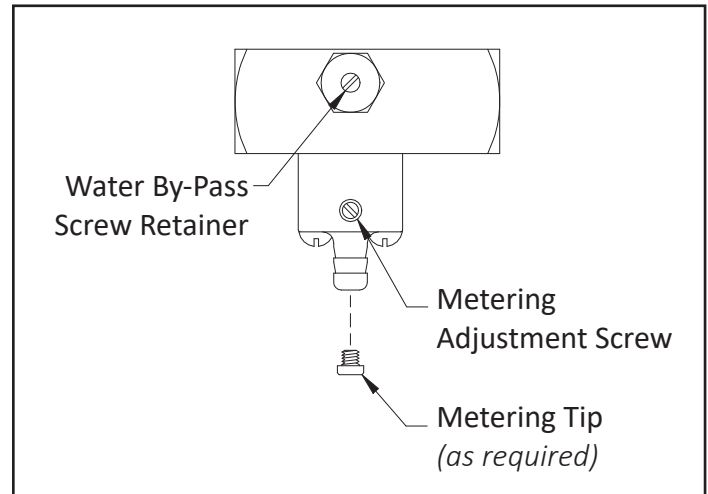

Fig. 19.1: Venturi Metering tip and adjustment screw locations
1. See [Figure 19.1] for location of water bypass screw and fine metering adjustment screw.